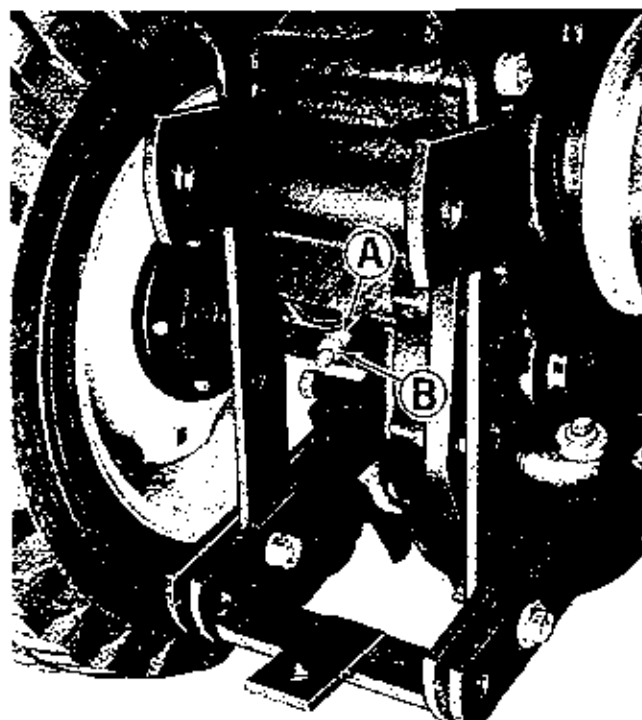

Figure 13. Brake adjustment near left rear wheel.
1. See figure 13. Use one open end wrench to hold nut (A) stationary, and another wrench to turn nut (B) counter-clockwise to loosen it slightly.
2. Turning nut (A) clockwise will give more braking action and turning it counter-clockwise will give less. The brake adjustment can best be made by using the trial and error method, and operating the tractor each time an adjustment has been made. The best adjustment can be made by turning nut (A) counter-clockwise until the foot pedal brake does not work. Then turning it clockwise, one turn at a time, until the tractor will stop satisfactorily when rolling backward. This is the correct adjustment. Further tightening may cause the brake to drag, or prevent proper clutch disengagement.
3. After you are satisfied that the adjustment is correct use one wrench to hold nut (A) stationary and another turn nut (B) clockwise to tighten the nuts securely together.